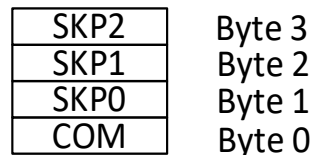

Figure 2.10. SKIP Pattern Format
- Matches the programmable SKIP pattern as provided in Figure 2.10. The SKIP pattern usually has the following format: a COM byte optionally followed by 1 to 3 SKP bytes. Registers configure all bytes (Byte 0 to 3).